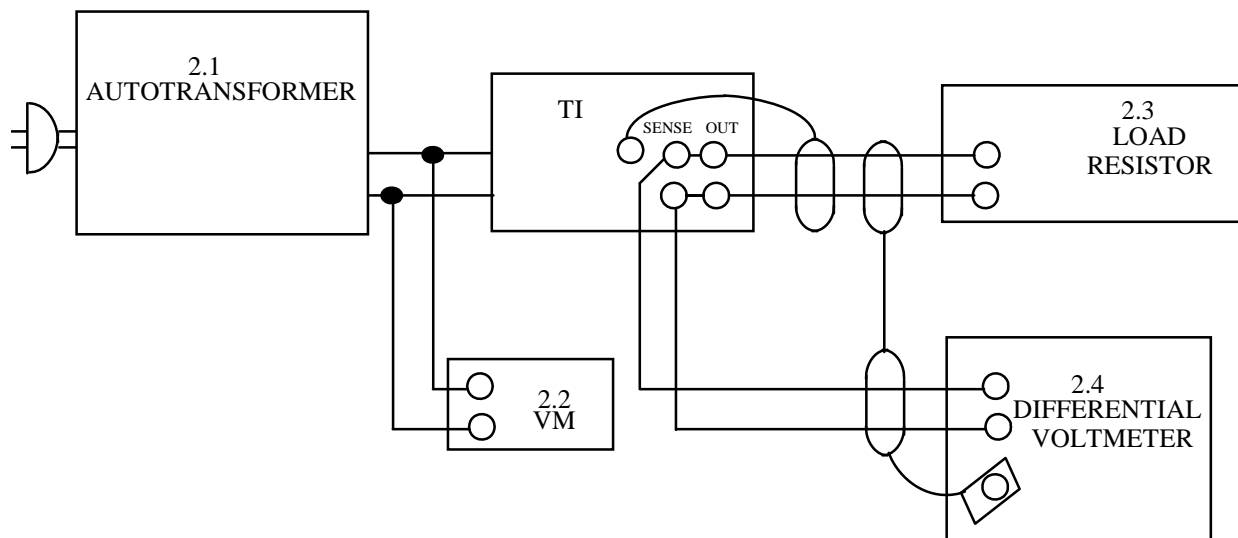

Figure 2. Line and Load Regulation Test Configuration
4.1.1 Connect the equipment as shown in Figure 2.
4.1.7 Perform each of the load-regulation measurements (still using Figure 2 as the test setup) as follows:
4.1.7.2 With the load resistor connected as shown in Figure 2, adjust the Diff VM controls as required to establish a Diff VM null indication, increasing the null range sensitivity as required. Note the Diff VM indication as the 1st indication; and switch the Diff VM null switch to the TVM position.